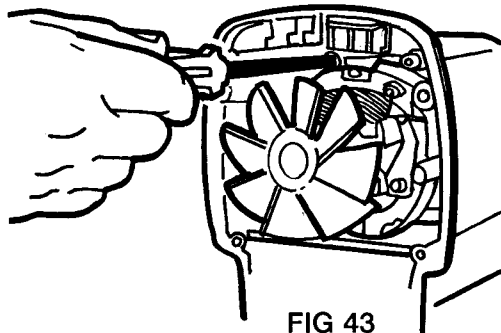

FIG 43
1. Remove 4 screws holding motor and lift motor assembly out (Fig. 43 & 44).